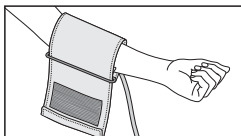

Fig. 7
2. Apply the cuff to your left upper arm so that the air tube is directed to your palm. If the measurement on your left arm is difficult, you may use your right arm. In this case remember that the readings may differ by 5-10 mmHg and even more (Fig. 7).